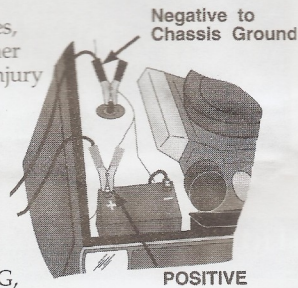
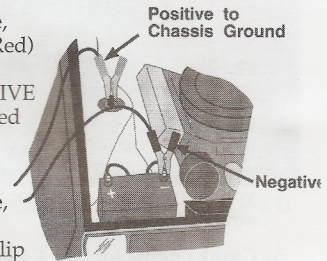

Figure 1
Figure 2
3. Determine which post is grounded (connected) to the chassis. If the negative post is grounded (as is the case with most vehicles), see figure 1 and instruction "4a". If the positive post is grounded, see figure 2 and instruction "4b".